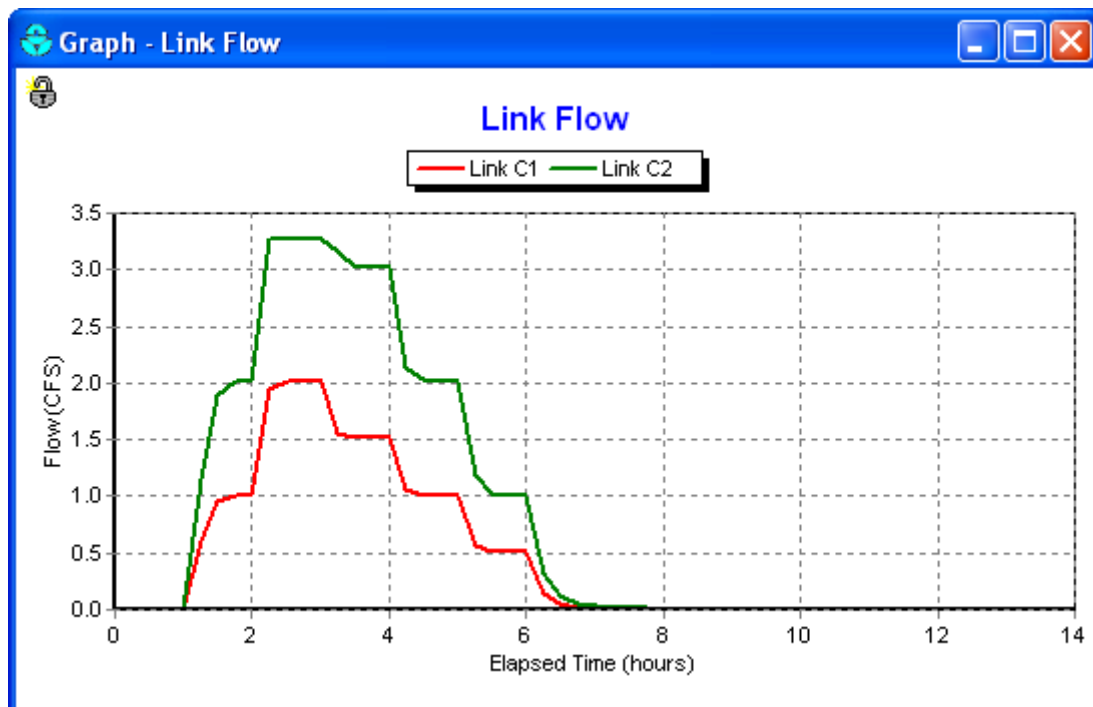

Figure 2-13. Time series plot of results from initial simulation run.
4. Press **OK** to create the plot, which should look like the graph in Figure 2-13.